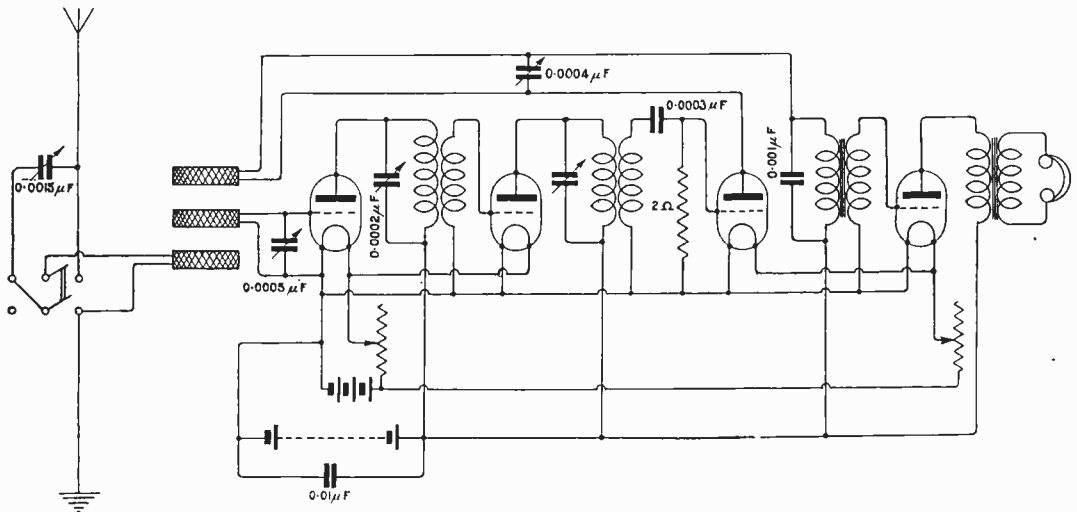
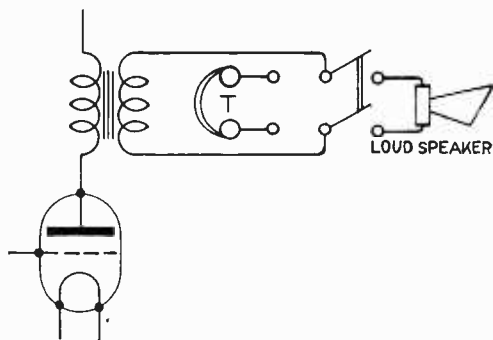
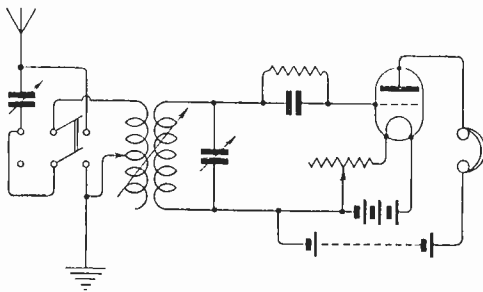
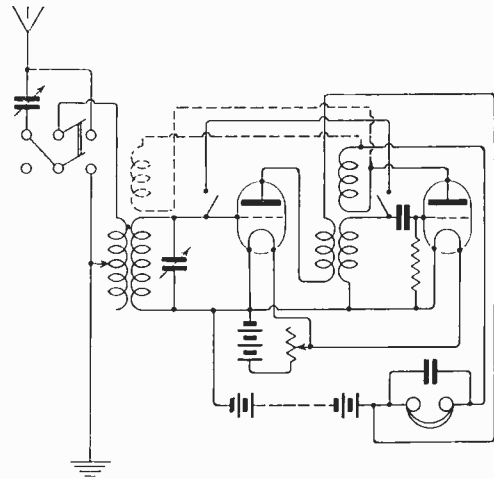

Fig. 2.
Fig. 4.
Fig. 5.
Fig. 6.
"W.D.L." (N.12).—There are many multivalve circuits given in back numbers of this journal suitable for operating a loud speaker. It is difficult to arrange H.F. amplification to cover such a wide range of wavelengths, and we suggest interchangeable high frequency transformers up to 2,000 metres, after which resistance capacity coupling is substituted. The method of doing this is shown on page 741 of September 2nd issue, where also are shown switches for throwing H.F. and L.F. valves in and out of circuit. We would also refer you to the diagram, Fig. 9, on page 743 of the September 2nd issue: also Fig. 2 and the explanatory text concerning it on page 705 of August 26th issue as a good guide.
(1) and (3) See Fig. 2. (2) Yes. (4) No, a correctly designed valve to telephone transformer with L.R. telephones is the better arrangement, although if it is necessary to economise there is no harm in putting the H.R. telephones directly in the plate circuit.
(1) See Fig. 2 and switching arrangements shown in September 30th issue. (2) You may add coils to the aerial and closed circuits. We
amplification followed by one L.F. amplifier. You might find it rather difficult to manipulate four stages of H.F. amplification. Numerous circuits making use of this arrangement have been given in the recent issues of this journal under the “Questions and Answers” section; in particular, Fig. 10, page 743; Fig. 6, page 741; Fig. 5, page 740; Fig. 2, page 705; Fig. 4, page 706, etc. (2) Yes; you will obtain fairly good results with the arrangement you propose, though we always advocate the use of an outdoor aerial whenever possible. (4) Usually 0.0013 and 0.00045 mfd., though one plate a little out of position may somewhat increase these values.
(1) See diagrams on page 879, September 30th issue, and Fig. 4. (2) and (3) If you are reacting into the closed circuit and the set is oscillating you will be causing a slight disturbance. The set must not oscillate to receive telephony. Your local society should be able to help you. (4) The generator noise you hear is due to the small voltage ripple superimposed on the direct current generated by the machine.
(1) See Fig. 5. You will need an additional inductance if you desire to receive C.W. signals. Read carefully all articles on "Experimental Station Design" in back numbers. (2) About 3,200 metres. (3) See article on H.F. unit amplifier with reaction in issue of September 30th, 1922.
(1) and (3) Aerial tuning condenser maximum 0.0015 mfd., closed circuit condenser maximum 0.0005 mfd., H.F. transformer tuning condenser maximum 0.0002 mfd., L.F. transformer by-pass condenser 0.001 mfd., grid condenser 0.0003 mfd., grid leak 2 megohms, reaction tuning condenser maximum 0.0004 mfd., battery by-pass condenser from 0.001 mfd. to 0.5 mfd. (2) The diagram, Fig. 4, September 23rd, 1922, issue which meets your requirements and can be thoroughly recommended. Anode tuning condensers should have a maximum value not exceeding 0.0002 mfd. Should you wish to experiment with H.F. transformers, we suggest you commence with those described in the article on "Experimental Station Design," September 2nd issue.
(1) See Figs. 6 and 7, page 707, August 26th issue. You will gain a good deal of useful information by reading the articles on "Experimental Station Design" appearing in alternate issues. See in particular the article in September 16th issue. (2) Range 50-100 miles.
(1) With a single-valve set you cannot use reaction when on "stand-by," as the Post Office will not permit reacting directly into the aerial coil. When receiving on "tune" position you can react into the closed circuit coil, which should be the centre coil of the three. With a two-valve set you may react into the H.F. transformer as explained in recent issues, and then it will not matter whether you are receiving on "Tune" or "Stand-by." (2) No. A grid leak and condenser is better. If you want to try a potentiometer, connect it up as shown in the H.F. amplifier panel, Fig. 6, page 809, September 16th issue. If no reaction is employed you will receive everything except pure C.W. telegraphy, although, of course, reaction, when judiciously used, greatly improves signals. (3) See Fig. 6.
"S.A.X." (Preston).—(1) *Enquires whether the circuit given on page 608, Fig. 5, August 5th issue, comes under the heading of those capable of energising the aerial, if so, for a rearranged*
"D.S." (Wilts.).—With regard to the use of interchangeable transformer and resistance capacity coupling you may gain some useful information from the article on page 760, September 9th issue, also Fig. 6, page 741, September 2nd issue. We understand at present that the Postmaster-General has no objection to reacting into the closed circuit. Potentiometer control is not necessary with "R" valves but it may be useful with your valves. We anticipate your reaction trouble will disappear when further H.F. valves are used. See also article in September 30th issue.
the wavelength formula. (2) You do not give sufficient particulars, and we suggest you wind a number of coils and mount them side by side, bringing out the connections to a switch. (3) You will find it a very difficult matter to cut out the disturbances as you are so close to the tramway system. Add valves to your set and use a frame aerial. (4) The circuit as shown is of little value and would not be authorised by the Post Office. See Fig. 4, page 840, September 23rd issue.
"S.A.X." (Preston) enquires (1) Whether the circuit given on page 608, Fig. 5, August 5th issue, comes under the heading of those capable of energising the aerial; if so, for a rearranged circuit using same